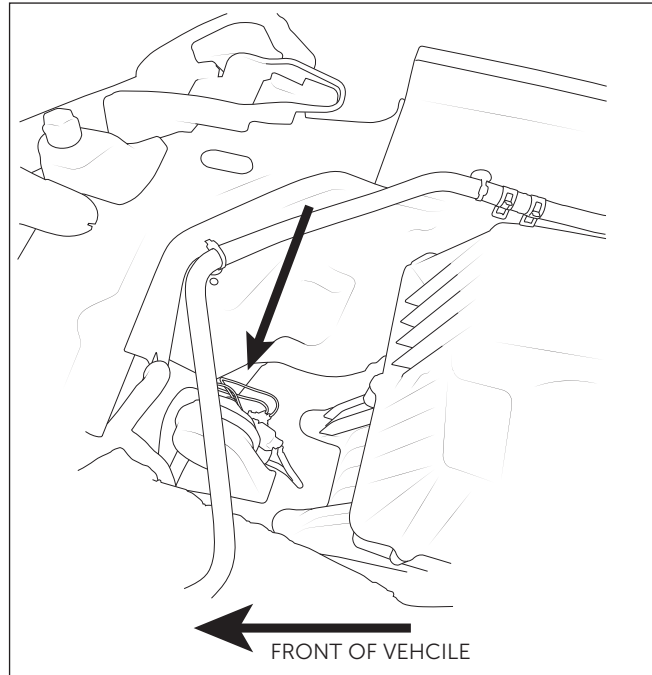

Figure 10
3. Route the mesh covered loom through the opening near the horn toward the underside of the vehicle (fig. 10).